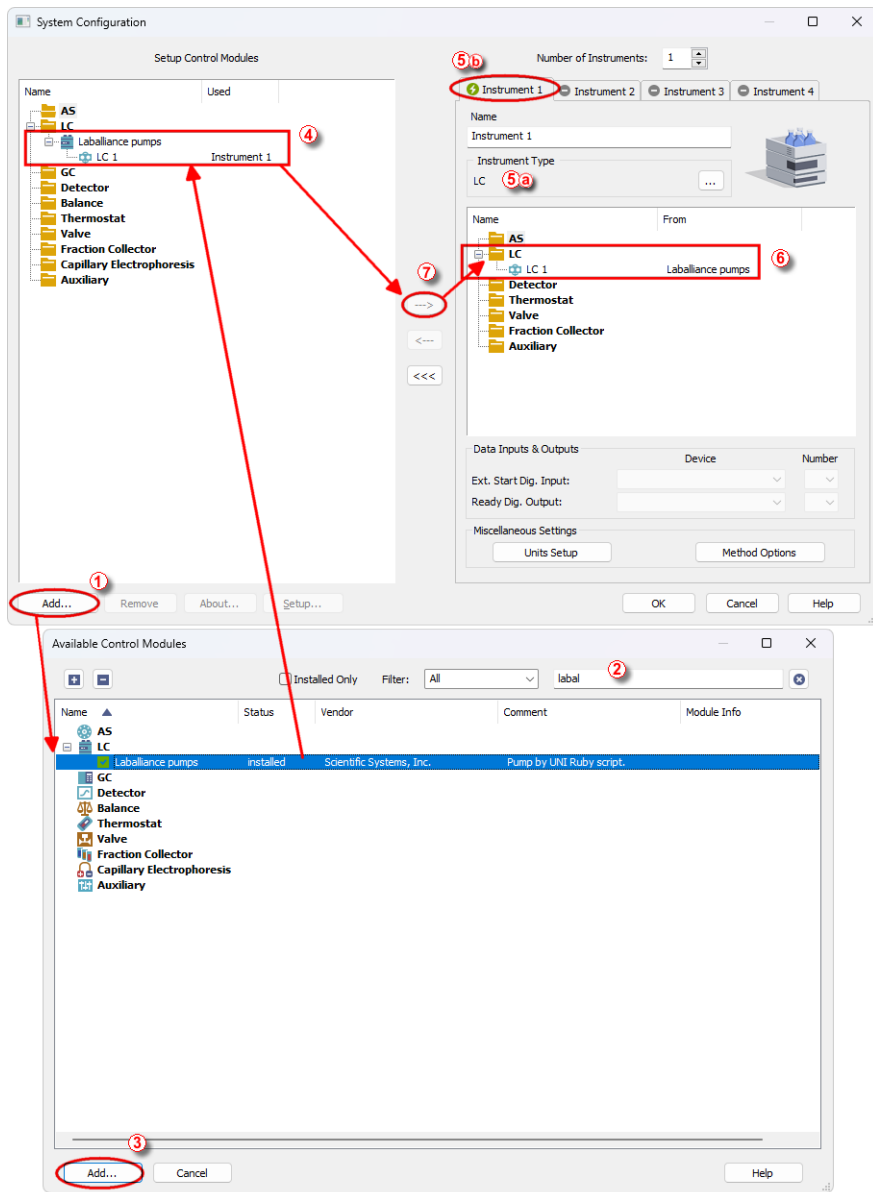

Fig. 3: How to Add SSI Pumps module
- Press the **Add** button (① on Fig. 3 on pg. 4.) to invoke the *Available Control Modules* dialog.
- You can specify the search filter (②) to simplify the finding of the driver.
- Select the correct item and press the **Add** (③ on Fig. 3 on pg. 4.) button. Each device with already created UNI profile should have its own item named accordingly in the *Available Control Modules* dialog.